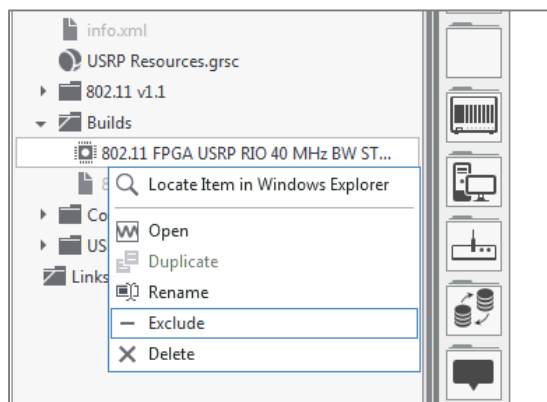

Figure 17 - Exclude and include the FPGA Top-Level again to make sure it is loaded correctly
11. **(Recommended)** Once the bitfile is finished building, exclude it from the project as shown in Figure 17 and include it again. This will ensure that the latest changes are actually applied.